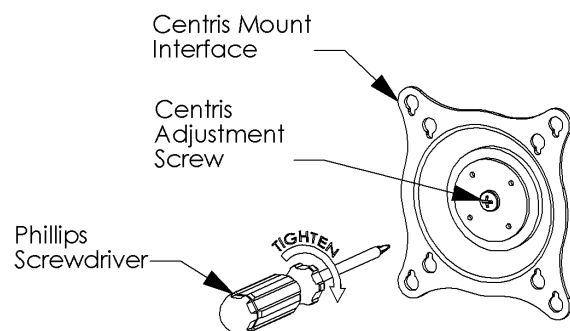

Figure 4. Tighten Centris Adjustment Screw
1. Check adjustment screw on the Centris mount interface to ensure that the screw is tight. See Figure 4.